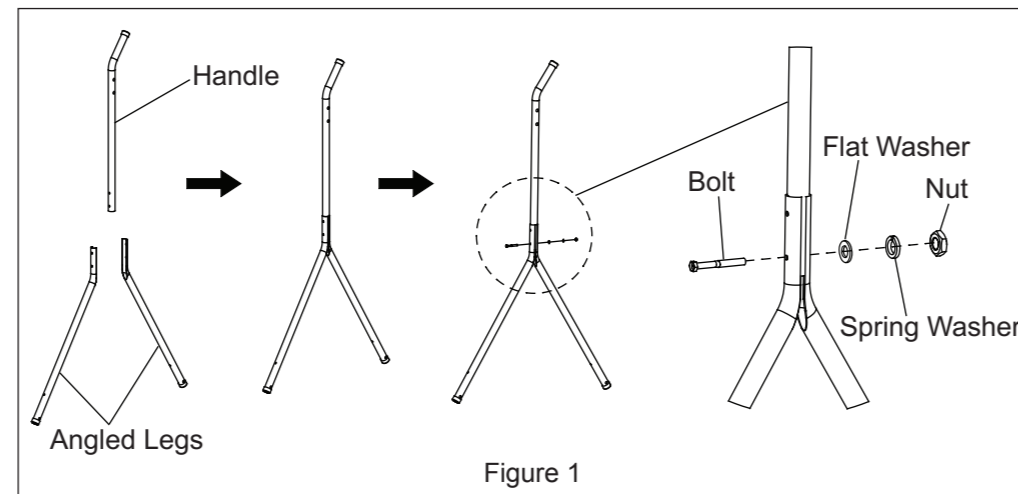

Figure 1
3. Assemble two angled legs to one upright handle with bolt, flat washer, spring washer and nut through lower hole as shown in Figure 1. Make sure the handle and the leg with a hole through the side are facing the same direction. This will ensure that the wheels and handle will be to the rear of the assembly. Repeat these steps for the other leg assembly.